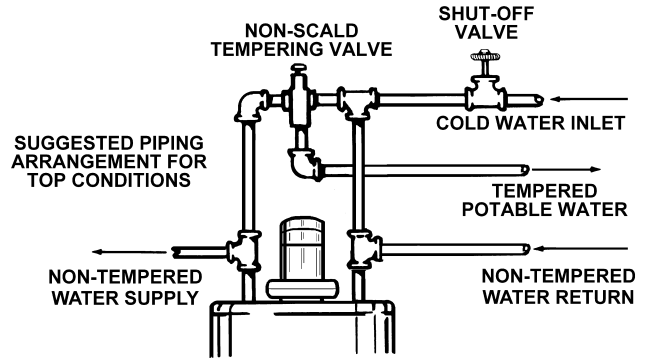

FIGURE 7
- When the system requires water for space heating at temperatures higher than required for domestic water purposes, a tempering valve must be installed, see Figure 7 for suggested piping arrangement.